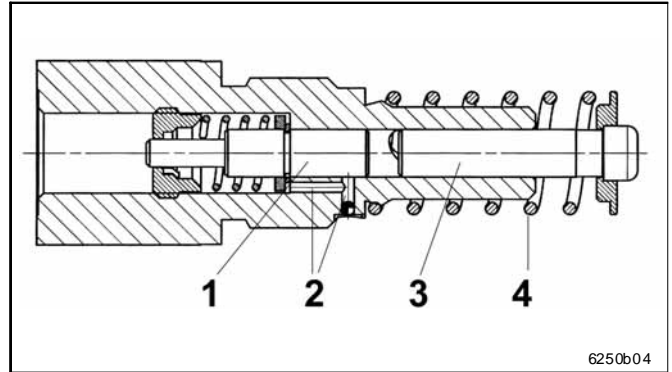

Fig. 2-5 Sectional diagram - pump element B7
- Pump element B7 suits especially applications in contaminated environments as the supplied lubricant is passing through a bypass bore 2 (fig. 2-5) on the check valve 1.